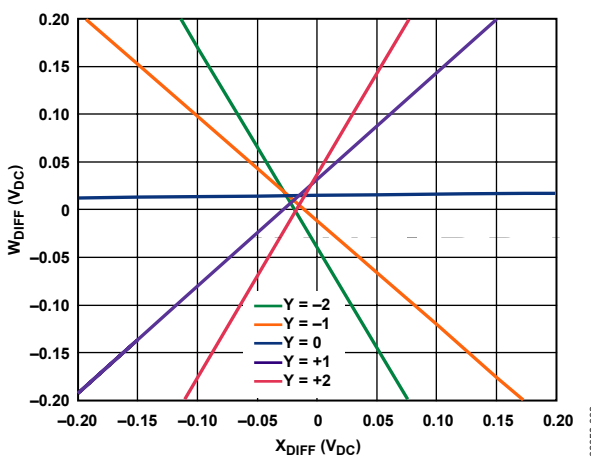

Figure 4. Magnified DC Cross Plots
The dc offset of the ADL5391 is approximately 20 mV but changes over temperature and has variation from part to part (see Figure 4). It is generally not of concern unless the ADL5391 is operated down to dc (close to the point  $X = 0 \text{ V}$  or  $Y = 0 \text{ V}$ ), where 0 V is expected on the output ( $W = 0 \text{ V}$ ). For example, when the ADL5391 is used as a VGA and a large amount of attenuation is needed, the maximum attenuation is determined by the input dc offset.
The dc component of the output is related to the square of both the offset (OFST) and the signal input amplitude (E). The offset can be found in Figure 4 and is approximately 20 mV. The second harmonic output grows with the square of the input amplitude, and the signal bleedthrough grows proportionally with the input signal. For smaller signal amplitudes, the signal bleedthrough can be higher than the second harmonic component. As the input amplitude increases, the second harmonic component grows much faster than the signal bleedthrough and becomes the dominant signal at the output. If the X and Y inputs are driven too hard, third harmonic components will also increase.